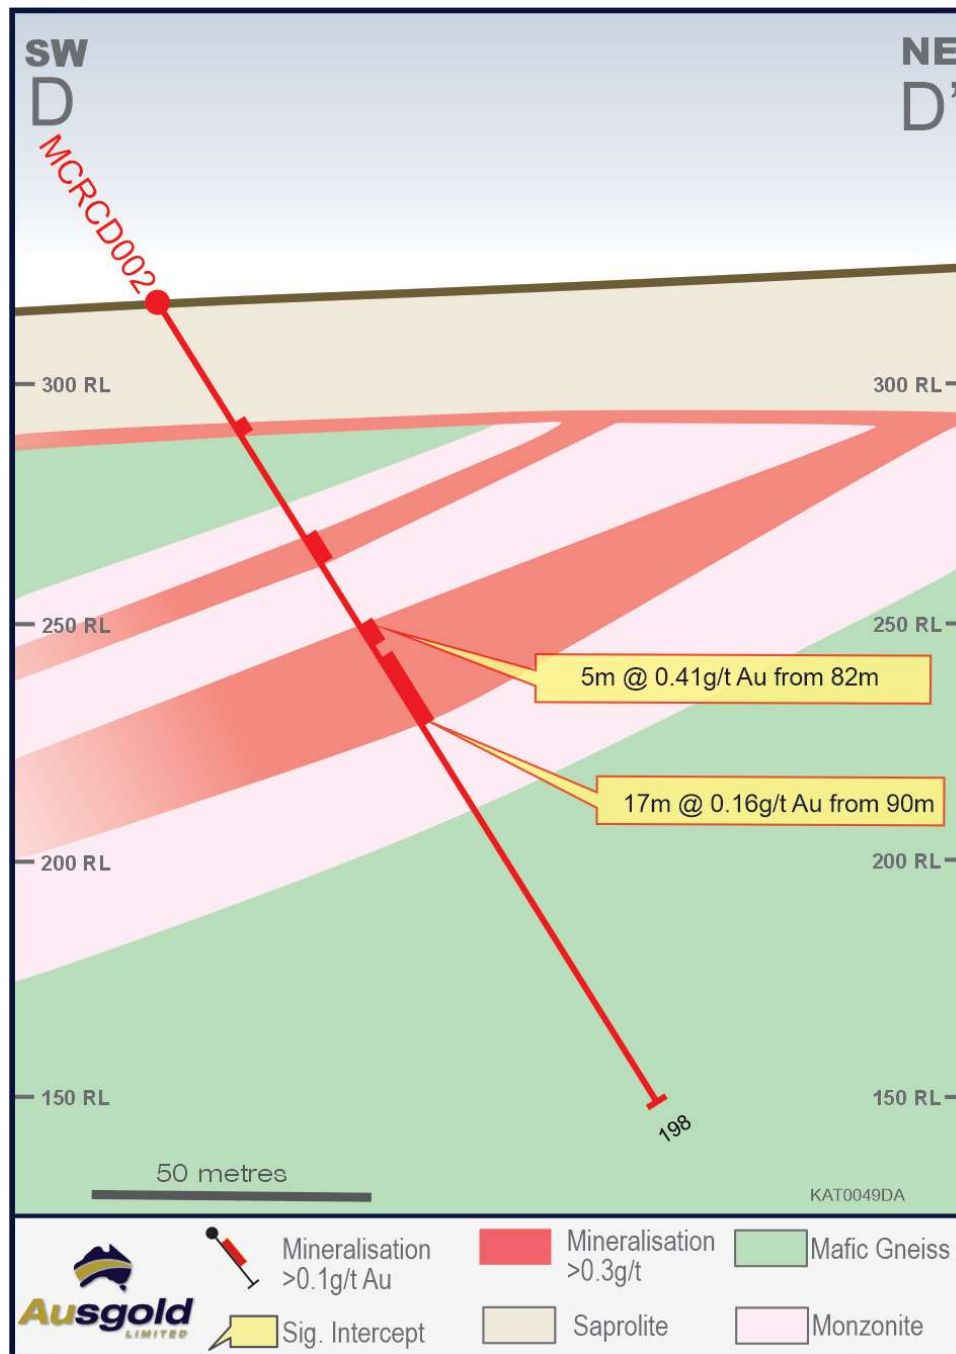

Figure 12 – Cross Section D-D' through McDougalls highlighting new drilling and results
- 5m @ 0.41g/t Au from 82m in MCRCD002 (Figure 12)